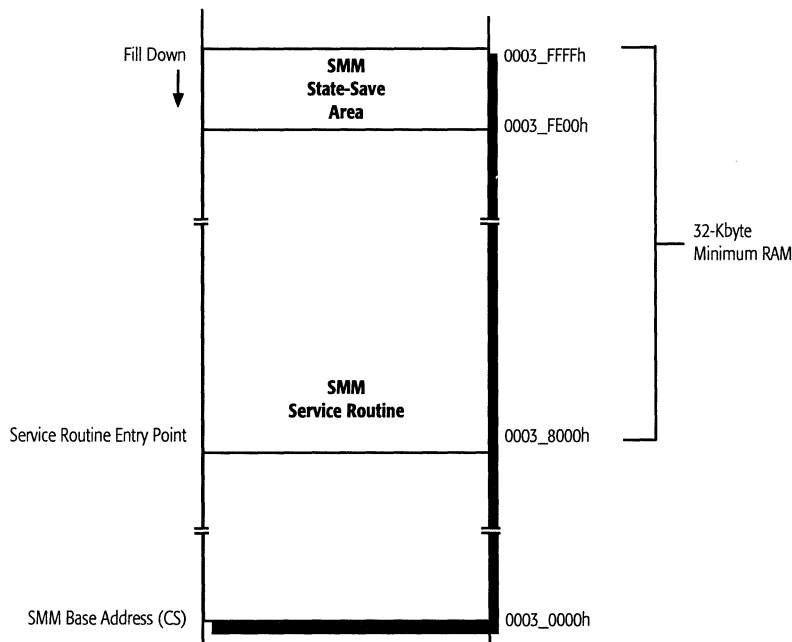

Figure 1. SMM Memory
Figure 1 shows the default map of the SMM memory area. It consists of a 64-Kbyte area, between `0003_0000h` and `0003_FFFFh`, of which the top 32 Kbytes (`0003_8000h` to `0003_FFFFh`) must be populated with RAM. The default code-segment (CS) base address for the area—called the SMM base address—is at `0003_0000h`. The top 512 bytes (`0003_FE00h` to `0003_FFFFh`) contain a fill-down SMM state-save area. The default entry point for the SMM service routine is `0003_8000h`.